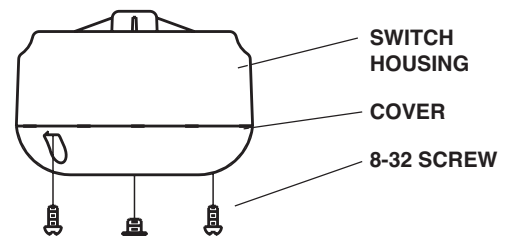

FIG. 1
1. Remove the cover from fan by removing two brass 8-32 screws and save these screws for attaching light fixture. Remove plastic wire nuts from switch housing wires and strip 1/2" insulation from both wires (black or blue, and white). This cover will not be reused. See FIG. 1